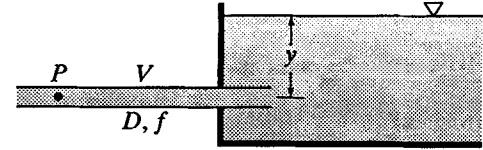

Figure X8.27.3
8.27.4 A horizontal 100-mm diameter pipe ( $f = 0.027$ ) projects into a body of water 1 m below the surface (Fig. x8.27.3). Considering all losses, find the pressure at a point 5 m from the end of the pipe if the velocity is 4 m/s and the flow is (a) into the body of water; (b) out of the body of water.